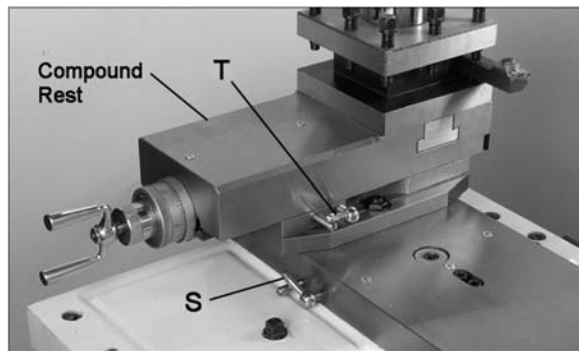

Figure 21
The cross slide lock is located at the right of the cross slide (S, Figure 21).
14. **Compound Rest:** Located on top of the cross slide and can be rotated 360° after loosening the lock (T, Figure 21). There are calibrations in degrees at the base of the rest to assist in placement to the desired angle.